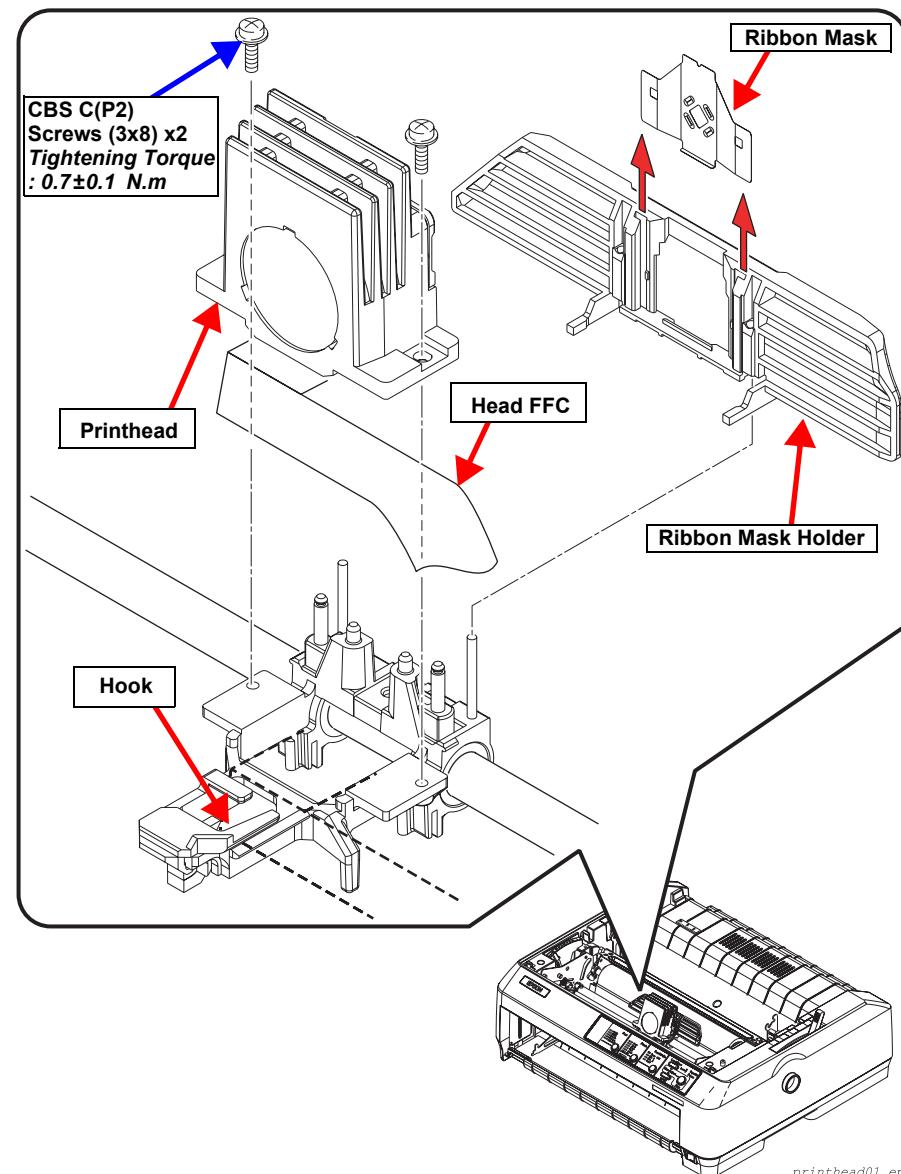

Figure 4-12. Printhead Removal
2. Remove the 2 CBS C (P2) (M3x8) screws securing the Printhead to the Carriage Assembly. (See Figure 4-12)